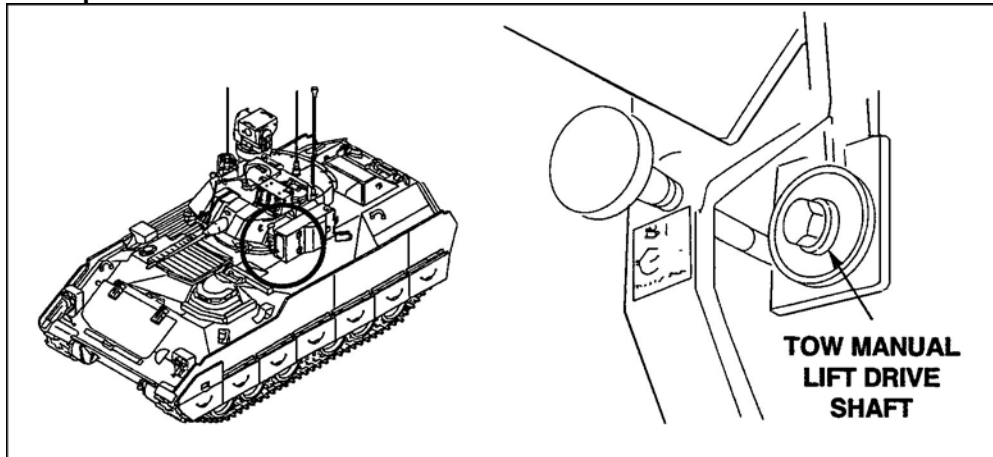

Figure 6. TOW manual lift drive shaft.
- f. Raise the TOW launcher to the firing position by using the 14-mm ratchet wrench on the TOW manual lift drive shaft by turning clockwise until the launcher is fully elevated and the TOW light comes on (Figure 6).